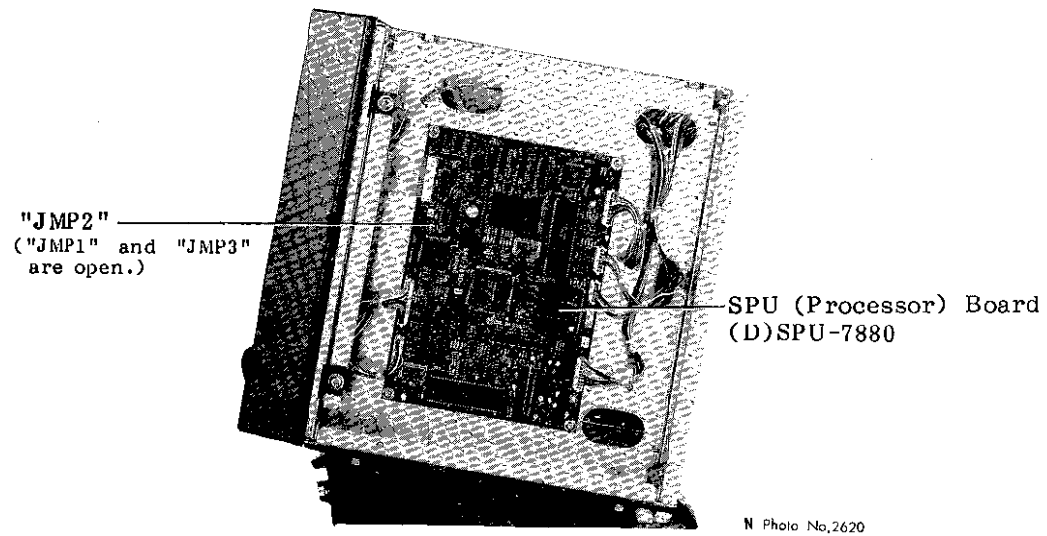

Fig.52 Display Unit Side View
3. Pull out jumper JMP2 on the SPU-7880 processor board, and operate the radar for transmission on 0.25nm range. See Fig.52